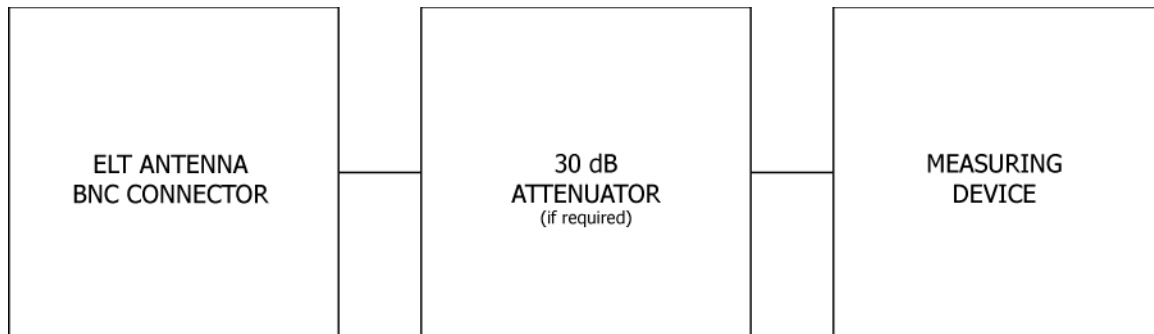

Figure 6 Performance Test Setup
- 3) For final airworthiness verification, use the ELT's own battery pack as the power source for these measurements. An alternate power source can be used where lengthy servicing, other than the performance tests, is anticipated. Expired battery packs can be used if the airworthiness performance of the battery pack in the system is not required. The battery packs are capable of at least fifty (50) hours of operation at the end of six years of useful life.
- 4) To prevent damage to the measurement equipment from the 5W, 406 MHz burst, install an RF attenuator (rated 50 ohm) between the ELT antenna output and the measurement equipment. Typical attenuation is 30 dB, 50 ohm, and rated at 5 watts for 1/2-second duration (see Figure 6 Performance Test Setup).
- 1) Connect the measuring device as specified in Figure 6 Performance Test Setup.
- 1) Connect the measuring device as specified in Figure 6 Performance Test Setup on page 27.